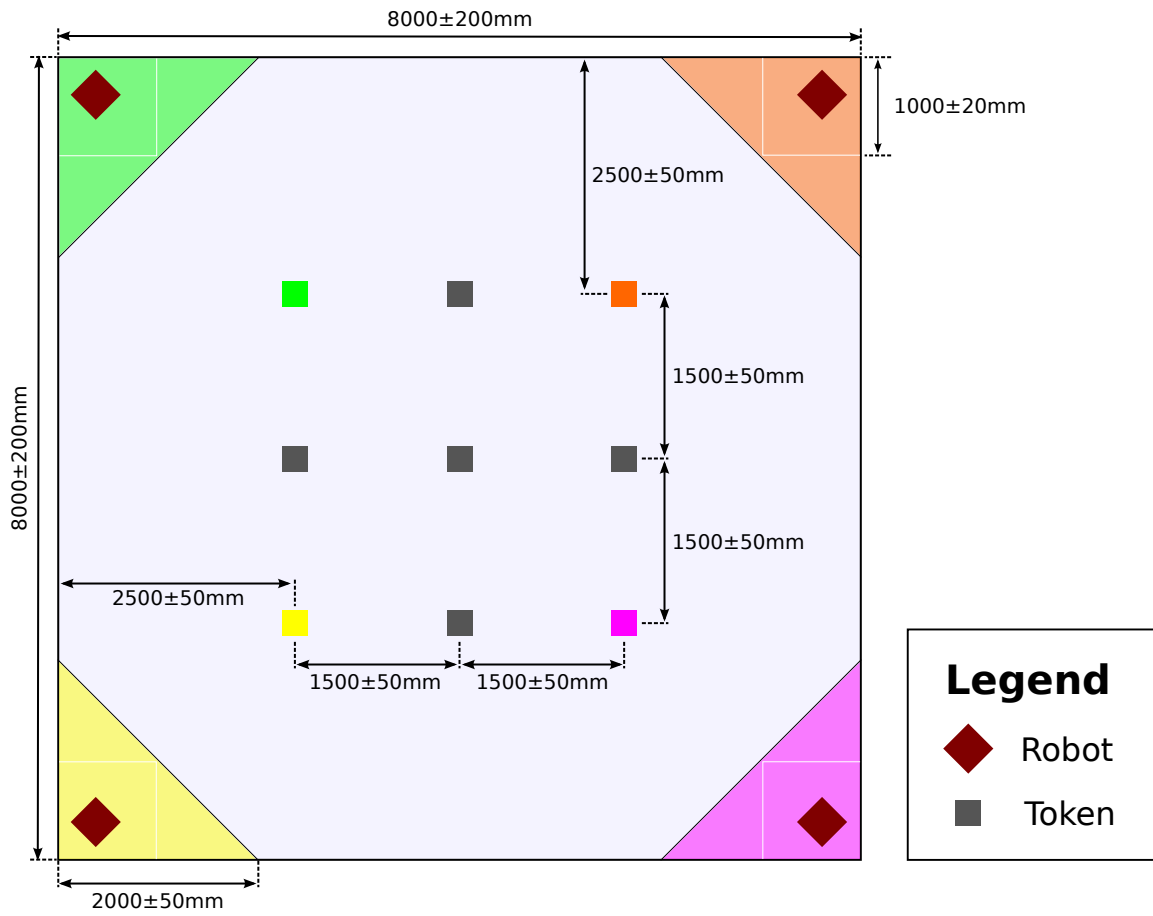

Figure 3: A bird's-eye view of the arena. All dimensions are in millimetres.
3.4.1 There are four zones in the arena, one in each of the corners. The arrangement and dimensions of these zones can be seen in figure 3.
3.5.5 There will be 9 tokens in the arena, at least one of each net. Their general starting positions can be seen in figure 3. The starting position of tokens of each net are not defined.